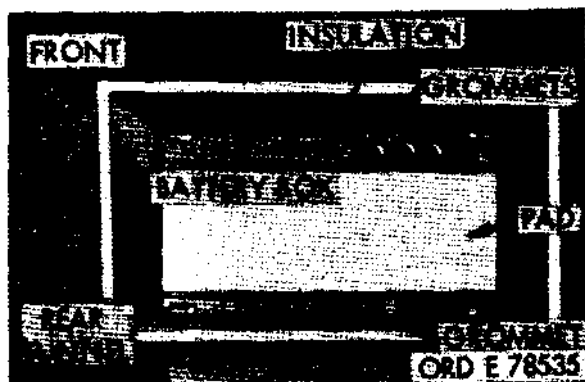
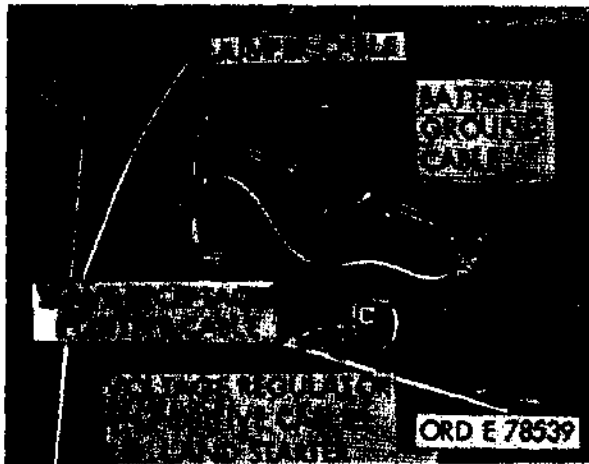

Figure 709. Battery box installation.
Figure 713. Battery box connections.
- (c) Paint floor area to be covered also, and lay barrier in place on vehicle floor, alining holes in barrier with holes in floor (fig. 709).
- (f) Place battery box assembly in place in cab and install three grommets in bottom of battery box (one in left rear hole, two in left and center front hole) (fig. 709) and place five pieces of insulation along bottom of box, trimming as necessary to provide free cable access to grommets holes.
- (1) Remove battery ground cable terminal clamp and pass cable up through rear left hole into battery box (fig. 709). Install terminal clamp.
- (2) Remove battery positive cable terminal clamp and pass positive cable up through front right hole; voltage regulator cable through center hole; and slave receptacle positive cable through front left hole (fig. 709). Connect regulator and battery positive cables to one side of clamp and slave receptacle cable to other side (fig. 713).
- (3) Hook four "J" bolts into the straps in bottom corners of battery box.
- (4) Place the four cables out of the way and install the vehicle batteries with positive terminals toward the front.
- (5) Position battery holddown frame over the batteries and "J" bolts and secure frame, using four flat washers MS 96906-27183-15, four split washers MS 96906-35337-027, and four nuts MS 96906-35690-605.
- (6) Connect jumper cable between the two outer terminal clamps and connect positive cable terminal clamp to the positive terminal post of the battery (fig. 713).